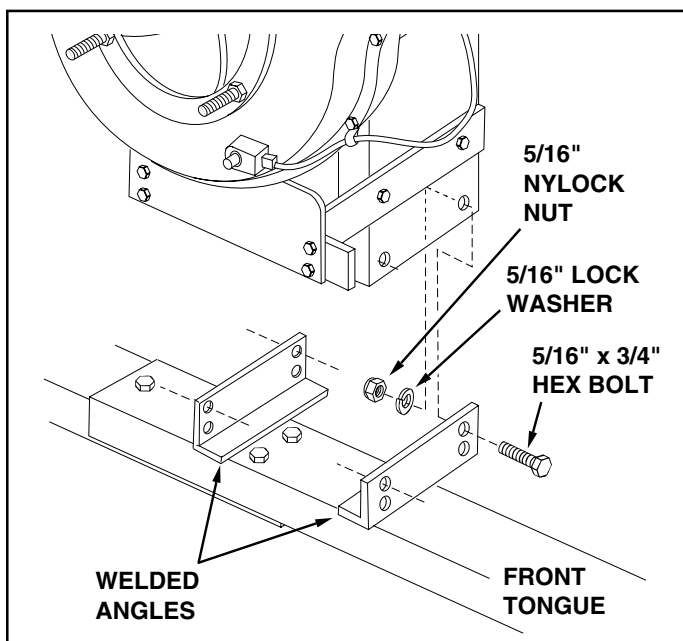

FIGURE 16
28. Attach the engine/impeller housing assembly to the **upper** holes in the angles welded to the tongue. Use four 5/16" x 3/4" hex bolts, 5/16" lock washer and 5/16" nylock nuts. **Tighten**. See figure 16.
- b. Loosen by approximately 1/4 turn each, the four bolts that you assembled in figure 16.